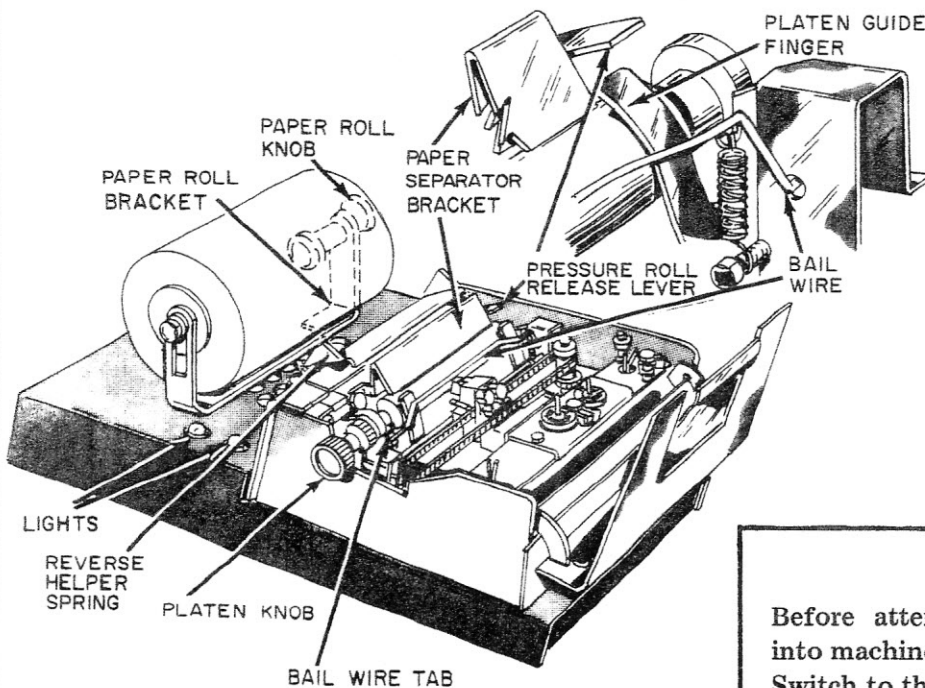
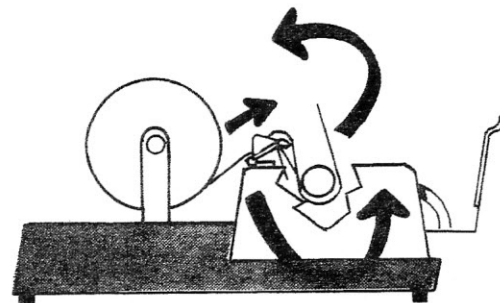

Figure 3-1. Typing Unit Component Identification
Figure 3-2. Paper Threading Diagram
The correct loading of paper into the machine is the single most important function which must be performed by the operator. Use Figure 3-1 to identify parts of the teleprinter which are referred to in the following procedure. Figure 3-2 illustrates a side view of the correctly-threaded paper path through the machine.
- (1) Remove the gum label or adhesive securing the starting edge of the paper roll.
- (2) Display a sufficient amount of paper spoiled by the adhesive and tear or cut it off with a pair of scissors. (A square cut makes initial insertion of paper easier.)
- (3) Pull outward on the paper roll knob and insert the paper roll into the paper roll bracket assembly so that the paper feeds from the underside of the roll. (See **Figure 3-2.**) Release the paper roll knob, allowing the bushing on the knob to settle into the paper roll core.
- (4) Raise the hinged lid of the front cover and pull forward on the bail wire tab, located on the left side of the bail wire (See **Figure 3-1.**), to move the bail wire away from the platen.
- (5) Pass the starting edge of the paper roll over the hinged Reverse Helper Spring assembly and insert it into the opening between the Separator Bracket and the upper hex tie rod. (*Insert paper as far as it will go without wrinkling.*)
- (6) Rotate the platen knob toward the rear of the unit to advance the paper around the platen and back over the Separator Bracket. If the paper is slightly off-center, depress the Pressure Roll Release Lever (See **Figure 3-1.**) and center the paper manually.
- (7) Return the bail wire to its original position and close the hinged lid.
- (1) Gently pull forward on the Bail Wire Tab (Shown in Figure 3-1.) to move the bail wire away from the platen.